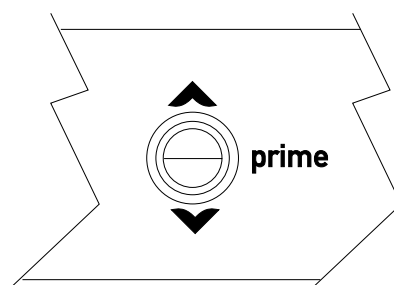

Fig.11
4. Open the dishwasher door, then push and hold the prime push button, (Fig. 11):